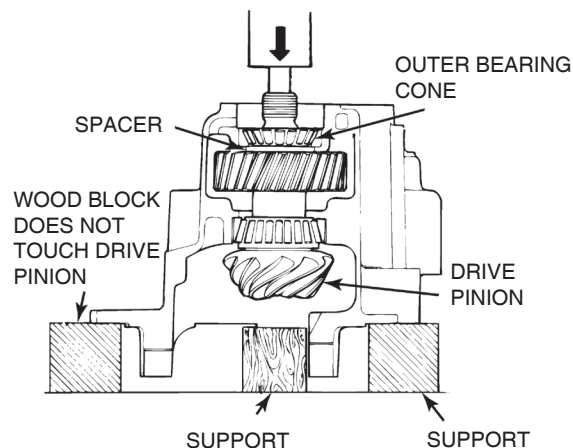

Figure 5.18
1. Prevent the drive pinion assembly from rotating by using a fixture to hold the teeth of the helical driven gear or place wood blocks between the head of the pinion and the differential wall. Remove the nut and the washer from the shaft of the drive pinion. Figure 5.18.